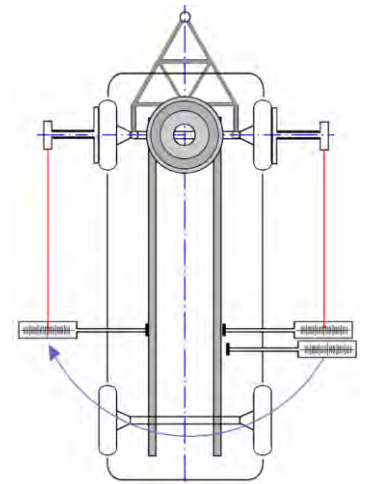

Fig. 13
- Attach a magnetic scale to one side on the vehicle frame. (Fig. 13)